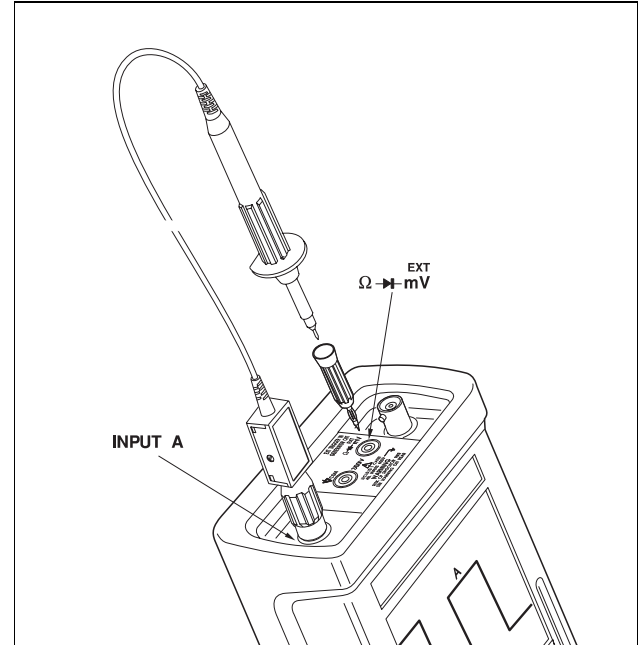

Figure 8-2. INPUT A Probe Calibration Setup
1. Connect the INPUT A BNC input to the GENERATOR OUT red banana jack. See Figure 8-2. Use the red scope probe and the red 4-mm banana adapter.